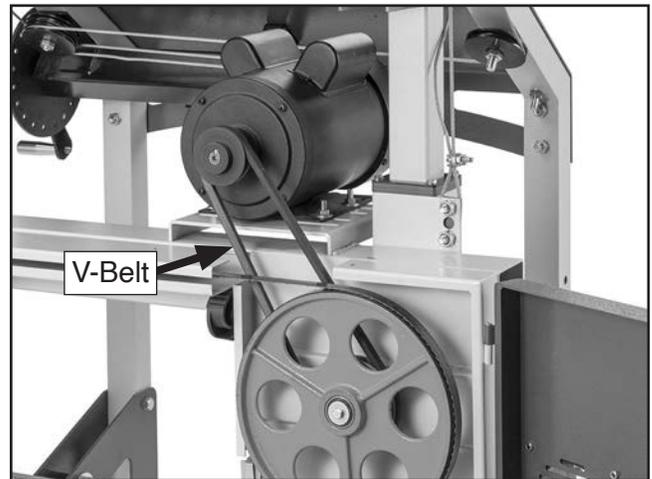

Figure 101. Location of V-belt.
4. Inspect V-belt (see **Figure 101**); if it is damaged or glazed, replace it (see **Page 54**).